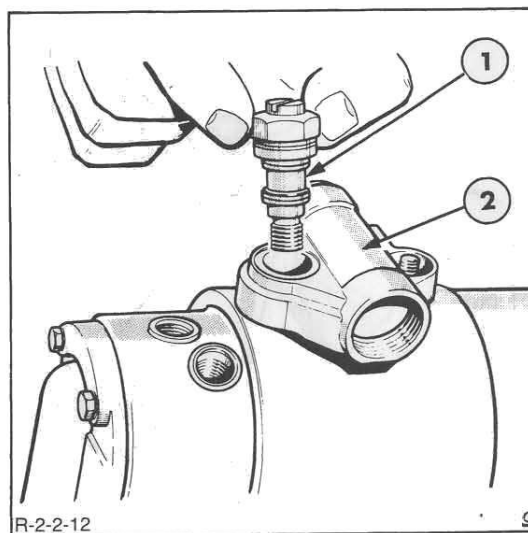
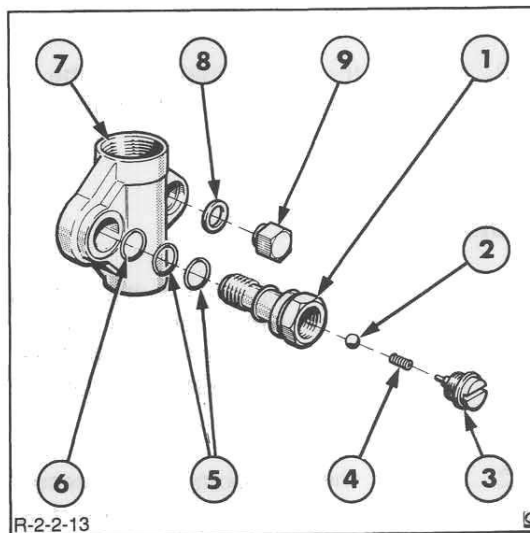

Figure 12
Figure 13
- (iii) Remove the head locating fitting, Figure 12 and remove the advance device. Disassemble the head locating fitting, Figure 13.